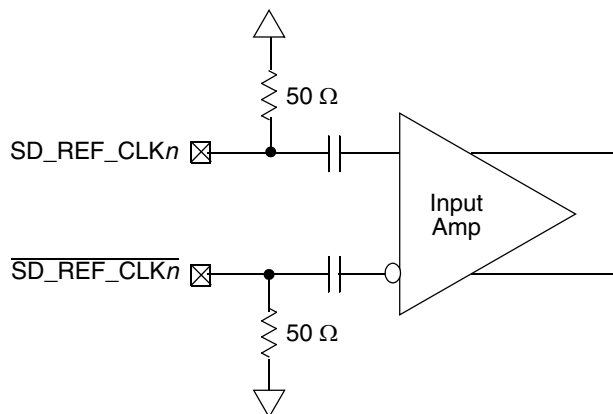

Figure 36. Receiver of SerDes reference clocks
- The SD_REF_CLKn and $\overline{SD_REF_CLKn}$ are internally AC-coupled differential inputs as shown in Figure 36. Each differential clock input (SD_REF_CLKn or $\overline{SD_REF_CLKn}$) has on-chip $50\text{-}\Omega$ termination to SGND followed by on-chip AC-coupling.